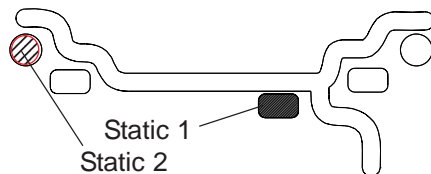

Figure 16
B. STATIC (single plane - Figure 16). Suggested for narrow rims (3" or less). Use a single corrective weight placed in the center or inner edge of rim as illustrated in Figure 16.